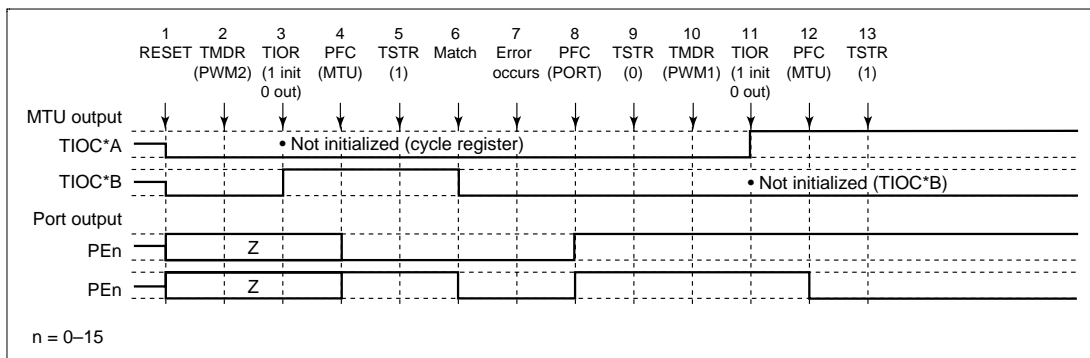

Figure 10.69 Error Occurrence in PWM Mode 2, Recovery in PWM Mode 1
(10) Operation when Error Occurs during PWM Mode 2 Operation, and Operation is Restarted in PWM Mode 1: Figure 10.69 shows an explanatory diagram of the case where an error occurs in PWM mode 2 and operation is restarted in PWM mode 1 after re-setting.